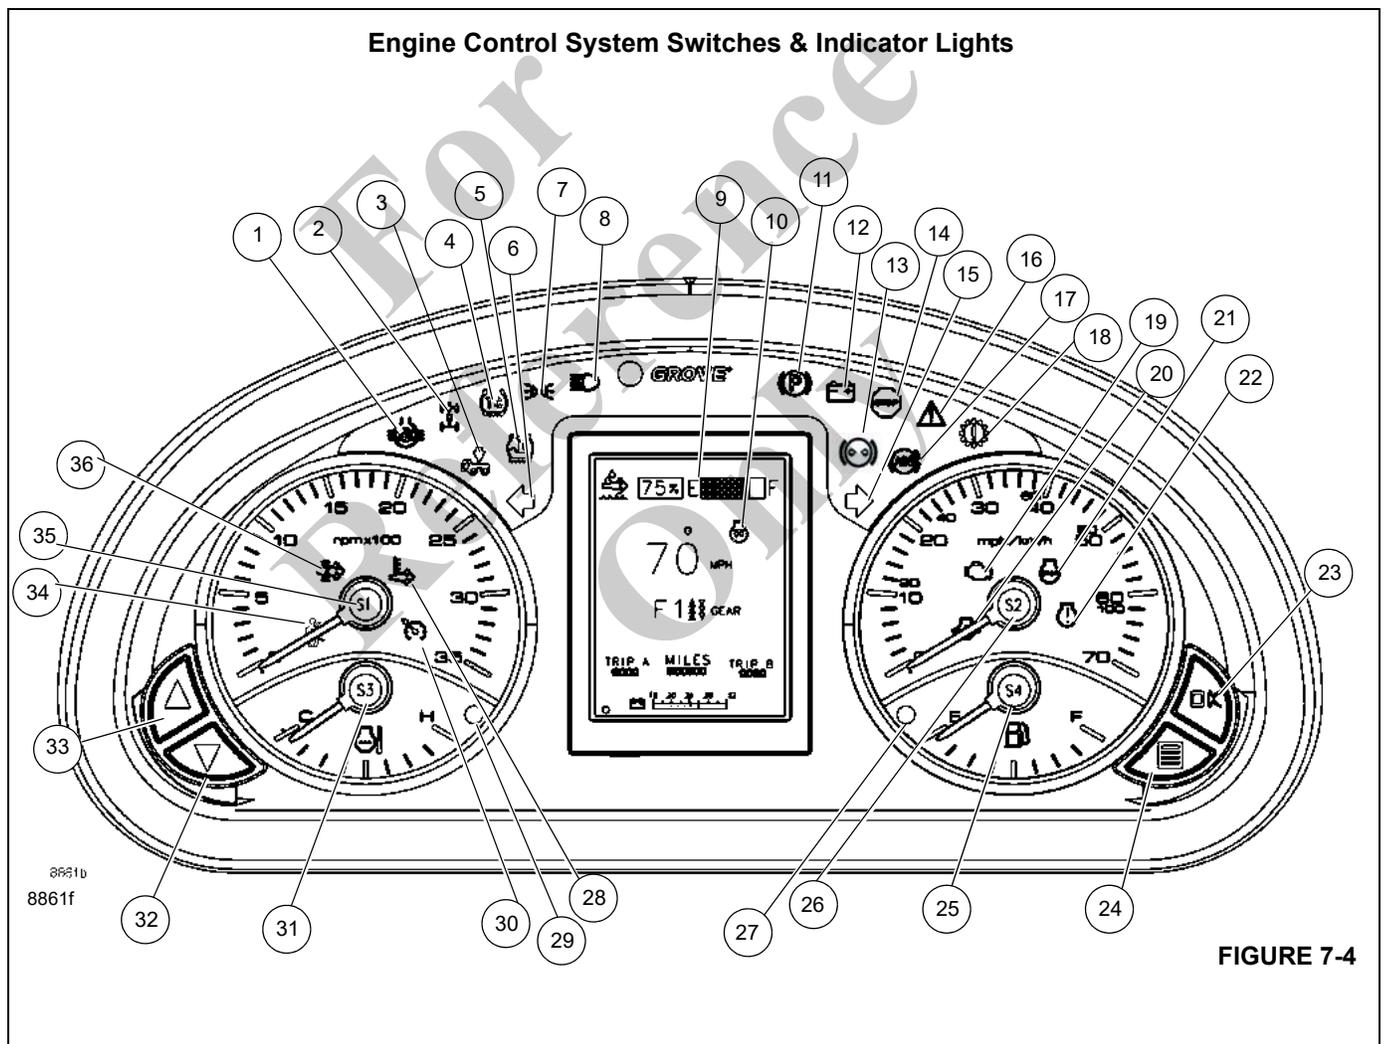

FIGURE 7-4
For a list of the Engine Control System Switches and Indicator Lights, refer to (Figure 7-4) and the Table listing below. Also, refer to the Control Panel Indicator and Gauge Display in the Operators Manual, Section 3, page 3-11 for a list of the items included in the display, including descriptions.
Engine Stop lamp is located in the top right of the speedometer (21), (Figure 7-4), which is on the right side of the front console in the carrier cab. The indicator illuminates red when energized by a signal from the engine ECM that signifies a serious engine problem that requires the vehicle and the engine to be stopped as soon as safely possible. In addition, a warning buzzer will also sound.
In addition to alerting the operator of system faults, the Engine Stop light, in conjunction with the Engine Warning light (22), (Figure 7-4), is used in the diagnostic operation of the engine control system. The diagnostic mode begins when the ignition and engine diagnostic switch is on and the engine is not running. The amber light flashes at the beginning of a fault code sequence, the red light flashes the three-digit or four-digit code for the active fault and the amber light flashes again to separate the previous red light sequence from the next one. Each code will be flashed twice before moving to the next code. When all codes have been flashed, the sequence will begin again. If no codes are present, both the engine warning and engine stop lights will remain on.
The Engine Warning/electrical system diagnostic indicator (22), (Figure 7-4) is located in bottom right of speedometer. It illuminates amber when energized by a signal from the engine ECM that signals the operator of an engine problem which must be corrected.
The amber filter exhaust system cleaning/high exhaust temperature indicator (28), (Figure 7-4), located in the tachometer will illuminate when the exhaust system has not been able to clean under normal operating conditions and is in need of assistance in order to perform an active cleaning. There are three progressive stages of need for cleaning indicated by this light:
The high exhaust temperature indicator (28), (Figure 7-4) is located in the tachometer. The indicator illuminates amber when an active exhaust cleaning has been initiated and the exhaust temperatures will be elevated above normal levels for operating conditions.